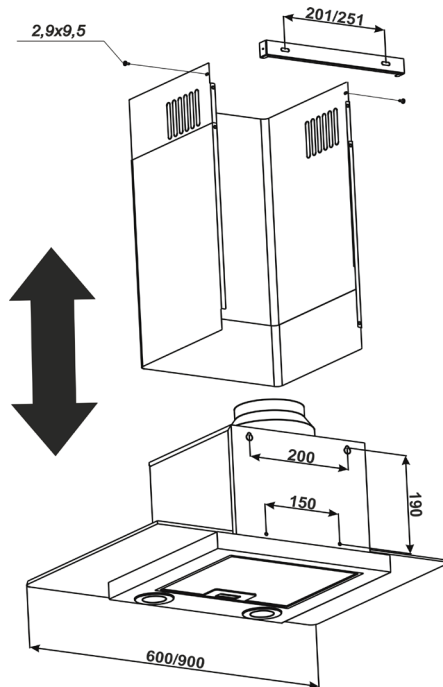

Fig. 4
6.4 Mark fixing points on the kitchen wall. For this purpose, make a paper template with the coordinates of 4 holes on the back panel of the housing (**points A, B, C, D; see installation diagram**); attach the template to the wall at the required height specified earlier and level it (**Fig. 4**).
6.9 Install the telescopic chimney casing on the hood housing. Lift the top panel of the casing with the bar to the ceiling so that it covers the ventilation duct, and mark **2 holes for fastening (points E, F)** in accordance with the slots of the bar (**Fig. 4**).
6.13 Install the outer panel of the chimney casing into the grooves on the hood housing, and lift the inner one upwards to align the mounting holes with the bar and connect the sides with **2 pan-head screws 2.9x9.5 (Fig. 4)**.